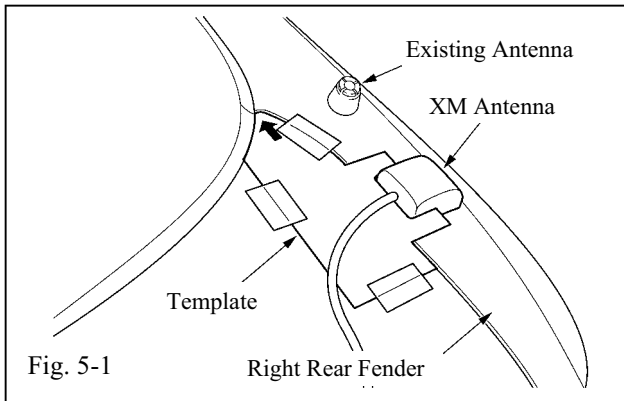

Fig. 5-1
- (b) Clean the antenna mounting area with 3M™ Prep Solvent-70. (Fig. 5-1)
- (1) When cleaning with 3M™ Prep Solvent-70, follow the manufacturer's directions. Do not allow cleaner to air dry.
- (c) Position and tape the antenna mounting template onto the right rear (passenger side) hatch as shown, secure with masking tape. (Fig. 5-1)